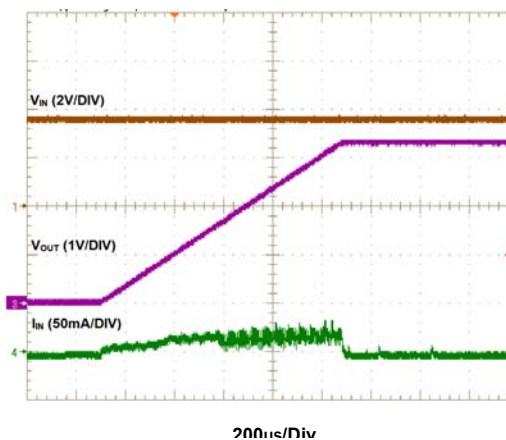

Figure 3. ISL9122A Start-Up with $V_{IN} = 3.6V$ and $V_{OUT} = 3.3V$
For both evaluation boards, the default output voltage is set at 3.3V. Use the following procedures to configure and power-up the board for proper operation. During the power-on process, the expected waveforms are shown in Figure 3.
6. Monitor the output voltage start-up sequence on the scope. The waveforms should look similar to those shown in Figure 3.